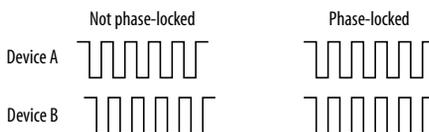

Figure 4-6: When transferring audio, two devices must have phase-locked audio clocks to prevent clicks, pops or other artifacts.
- Synchronizing the MOTU 896 with other digital audio devices so that their digital audio clocks are *phase-locked* (as shown in Figure 4-6)